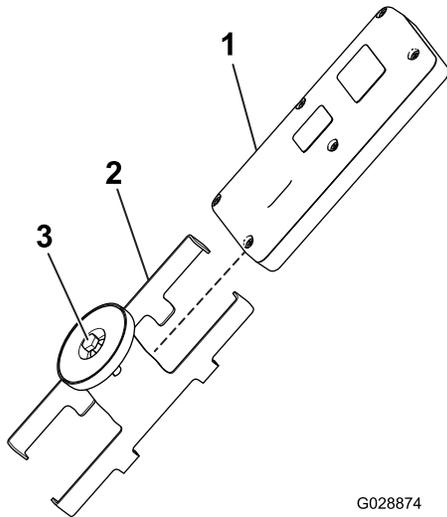

Figure 37
1. Loosen the bolt in the magnet on the magnetic remote bracket (Figure 37).
2. Slide the bracket sides apart and remove the remote (Figure 37).
8. Install the handheld remote into the magnetic remote bracket, slide the halves together to secure the remote, and tighten the bolt in the magnet (Figure 37).